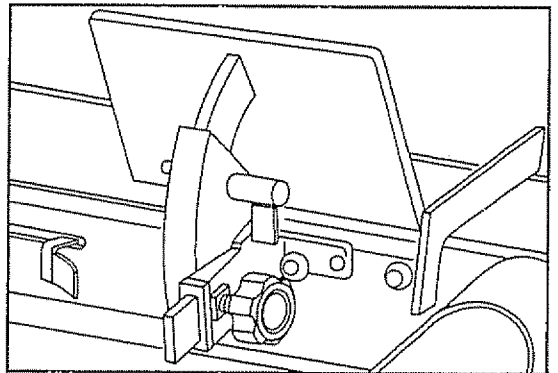

Fig. 10
■ Mounting the belt sander table (see figure 10)